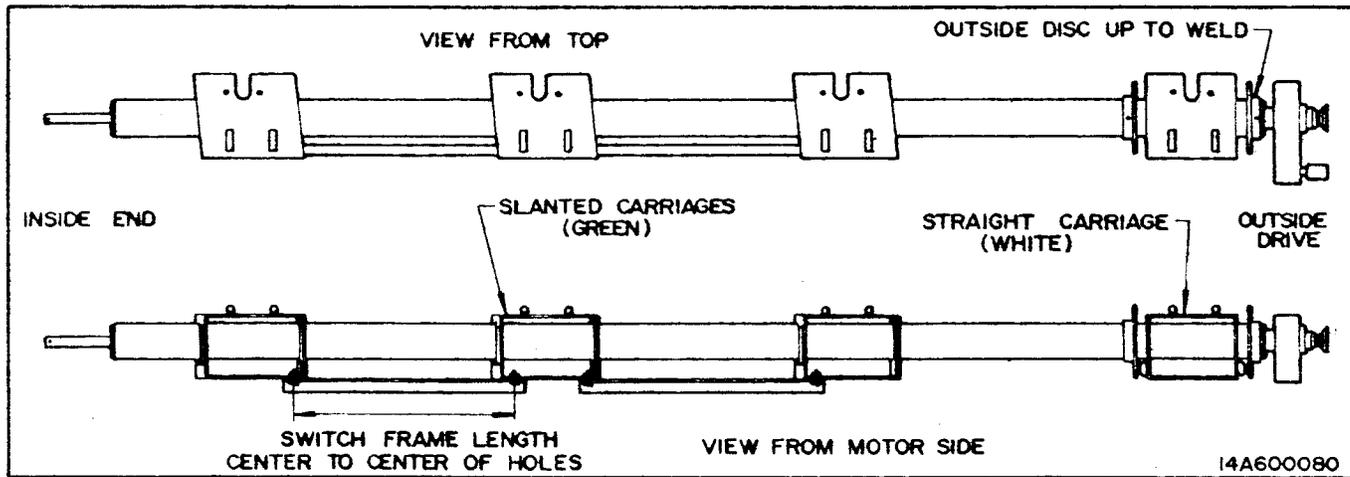

FIG. 4 - SWITCH FRAMES - OUTSIDE CARRIAGE
- 3a. Slide slanted green carriages off inside end of crosstube. Slide one 7" disc (hub first onto crosstube all the way to outer end of tube. Bolt in place. Slide white stationary carriage on beside disc. Slide other disc (hub last) next to stationary carriage and bolt down. See Fig. 4.
- 3b. Slide slanted green carriages back onto crosstube. **IMPORTANT:** Make sure slanted and stationary carriages have slot for down auger towards front of crosstube and that slanted carriages all slant the same way to the left. See Fig. 4.
4. Completely disassemble switch frame bundle into individual parts. Bolt switch frames between slanted carriages with 5/16 x 1" bolts. See Figs. 4 and 5. Switch frames will have several holes punched in them. Use pair of holes that provide correct spacing between carriages as found on Table 1.